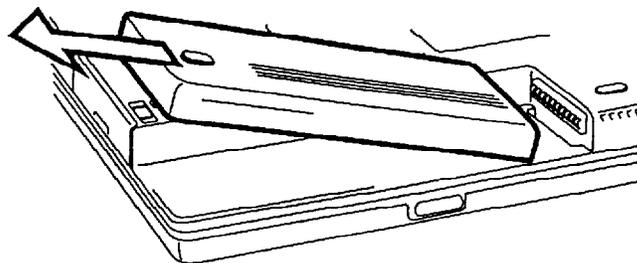

Figure 4-2 Lifting out the battery pack
6. Grasp the left end of the battery pack and lift it up to remove it (figure 4-2).